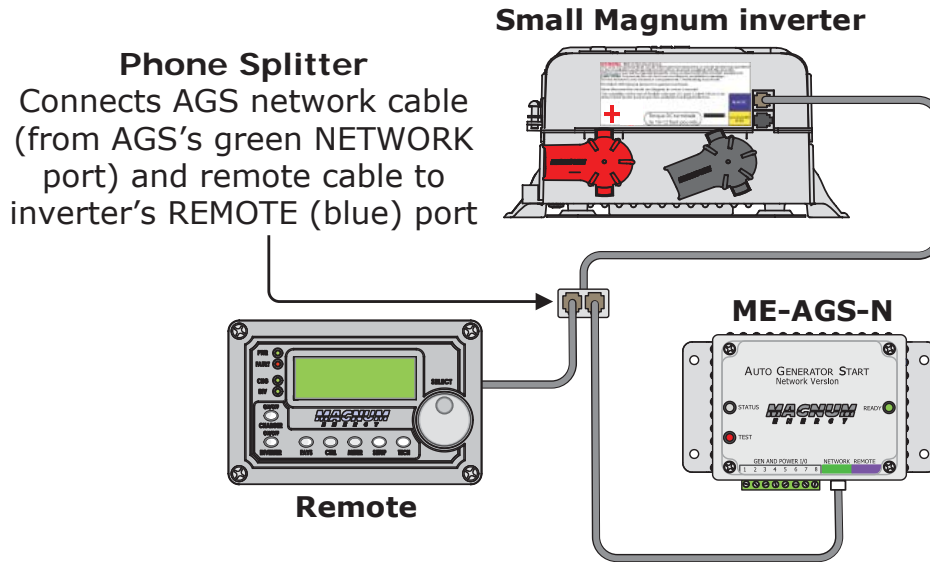

Figure 2-5, Connecting an AGS to an Inverter (Small)
- Small inverter (MM/MMS Series)** – Connect one end of the communications cable to the AGS’s RJ14 NETWORK (green) port. Connect the other end of the communications cable to a phone splitter, and then connect the splitter to the Remote (blue) port on the inverter (see Figure 2-5).